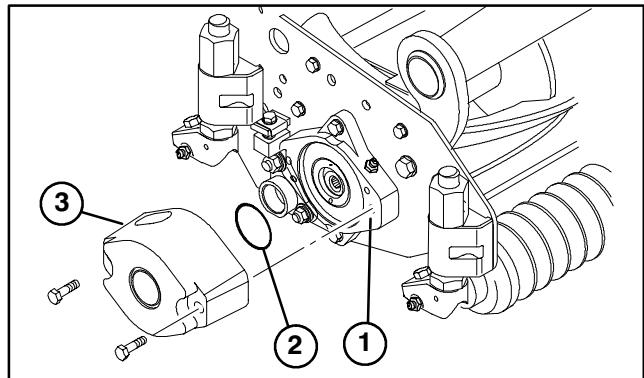

Figure 6
3. Lubricate and install a large O-ring into bearing housing groove on each end of cutting unit (Fig. 6 & 9).
4. Install a counter weight onto appropriate end of each cutting unit with capscrews provided (Fig. 6).